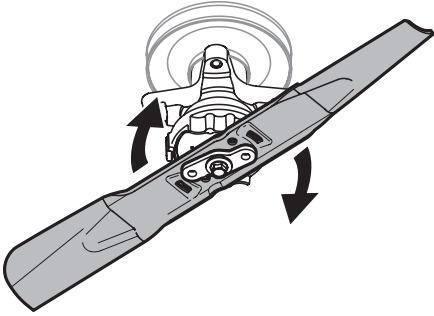

Fig. 53
- Rotate the blade clockwise to align with the blade adapter (Fig. 53).